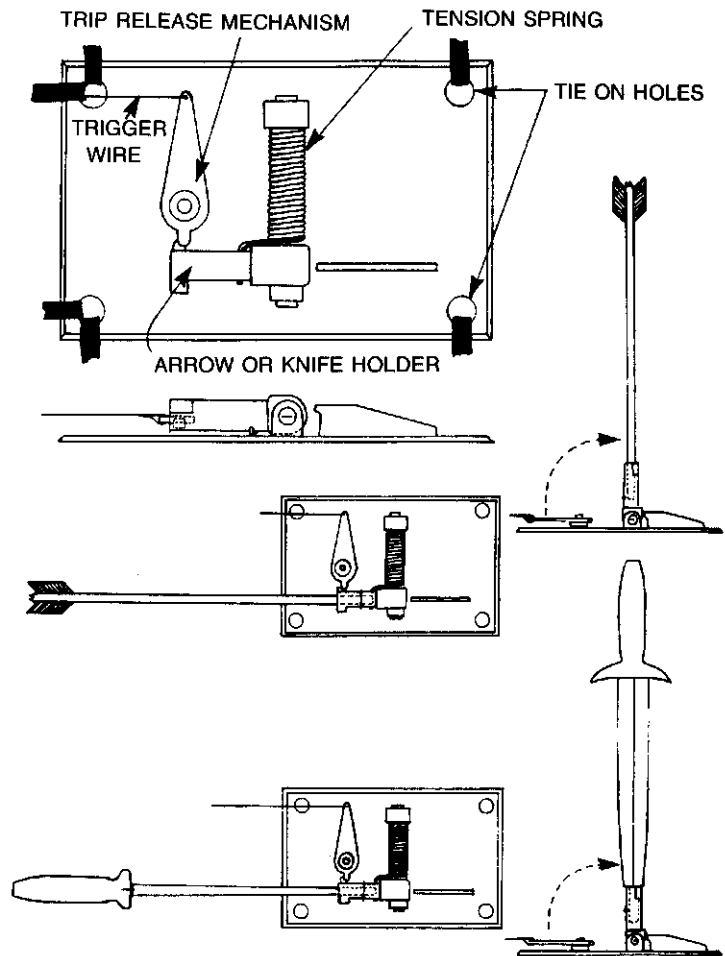

Figure 9-18 Pop-up device (top), pop-up arrow (middle), pop-up knife (bottom)
1. **pop-out knives and arrows:** These spring-loaded devices are designed to pop out from beneath a costume. They are masked from the camera and activated by the actor on cue. Split-second timing is crucial so that it appears that the actor has actually been struck by the arrow or knife. Often, however, there is some crossover with regard to timing. This is not especially crucial since much of it can be picked up in the editing room. Additionally, the sequence happens so quickly it is impossible to see the actual action of the arrow or knife in the spring-loaded device (Figure 9-18).